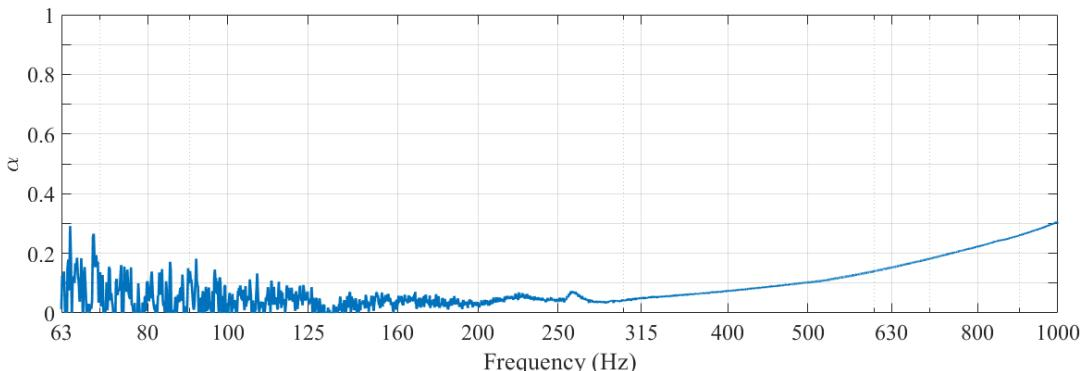

Figure 6: Absorption coefficient measured with the calibration sample
8. In Matlab, create a code allowing you processing the reflection coefficient  $R$  and the absorption coefficient  $\alpha$  of the material sample, according to the method of ISO 10534-2 standard. Compare the measured sound absorption coefficient with Figure 6.